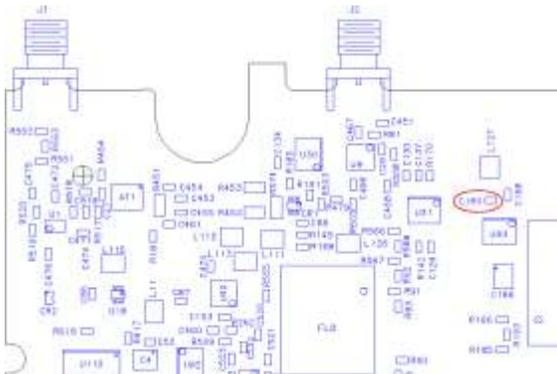

Figure 3
- (c) Refer to Figures 3 and 4: